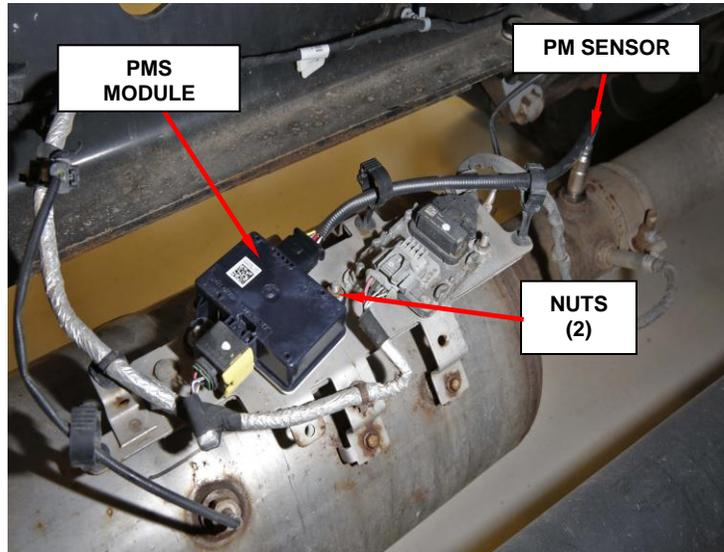

Figure 2 – PMS Module
5. Install the Particulate Matter (PM) sensor module and tighten the nuts securely (Figure 2).
6. Install the Particulate Matter (PM) sensor and tighten to 50 N·m (37ft. lbs.).
7. Route the PM sensor wire through the retainers (Figure 2).